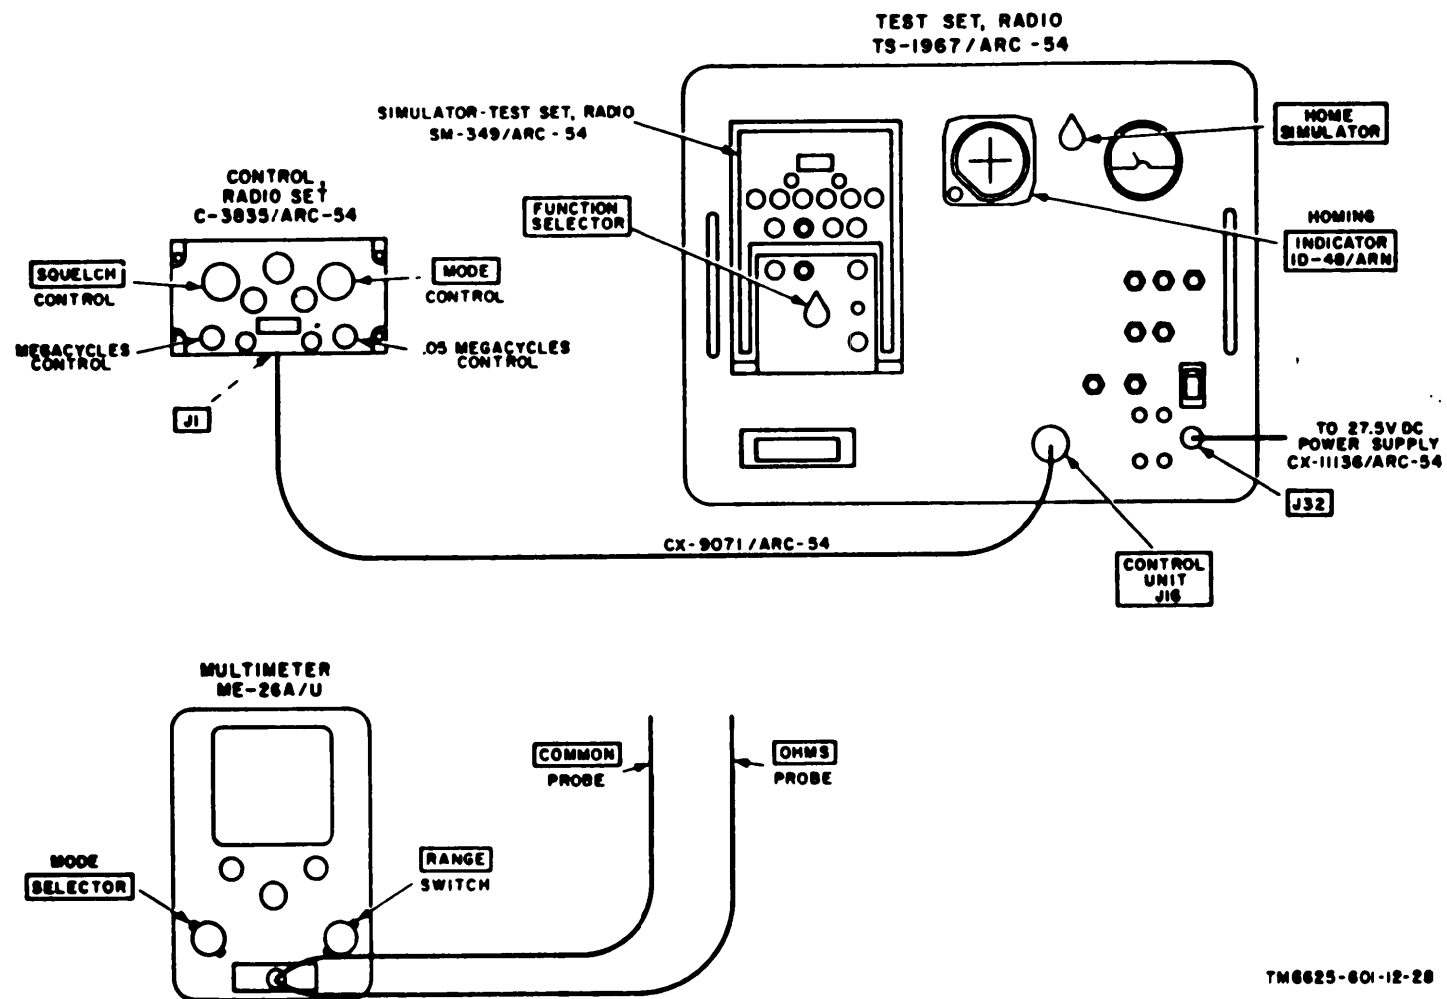

Figure 2-14. Control, Radio Set C-3835/ARC-54, operational test connections.
c. Audio, PTT, and Squelch Circuits Continuity Test. Perform the preliminary starting procedures (para 2-6a and b) and equipment interconnections (fig. 2-14).
d. Retransmit Circuit Test. Perform preliminary starting procedures (para 2-6a and b) and equipment interconnection (fig. 2-14).
e. *Frequency Selection and Panel Lamp Test.* (para 2-6a and b) and equipment interconnections (fig. 2-14).